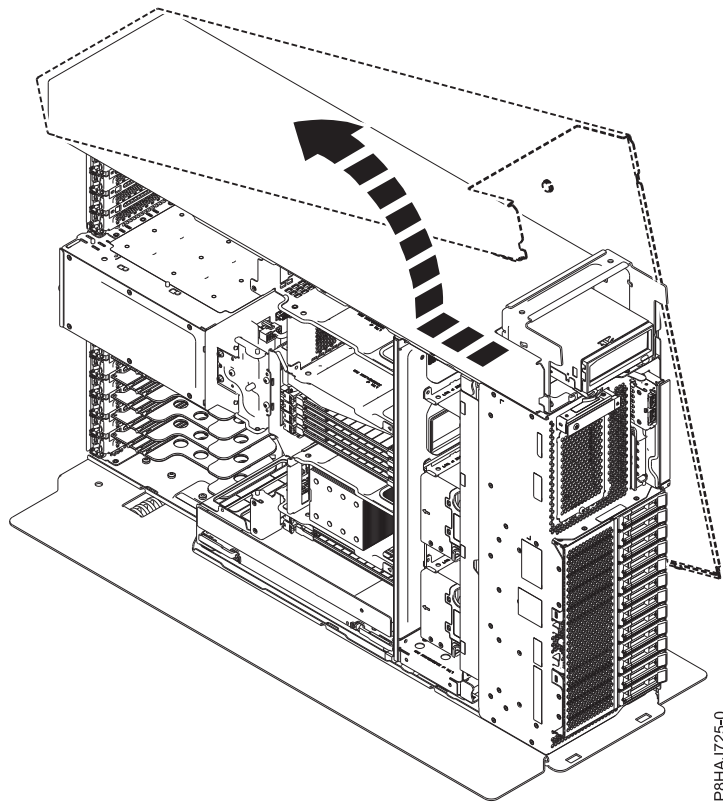

Figure 9. Removing the 8286-41A side cover
5. Slide the side cover off of the system in the direction that is shown in Figure 9 on page 24.